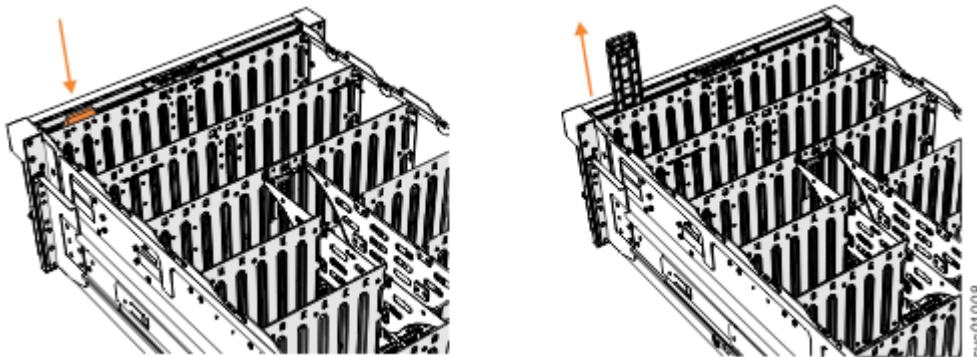

Figure 117. Removing the display panel assembly
3. Press the release tab at the top of the display panel assembly, as shown in Figure 117 on page 104.